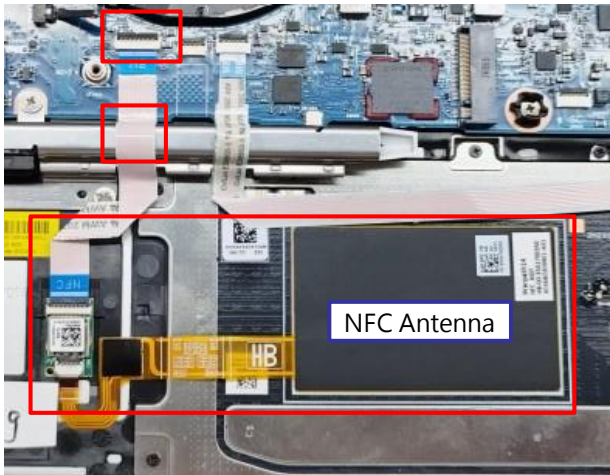

Figure 1
1. Open the NFC CNTR cover and remove the NFC module (Figure 1).